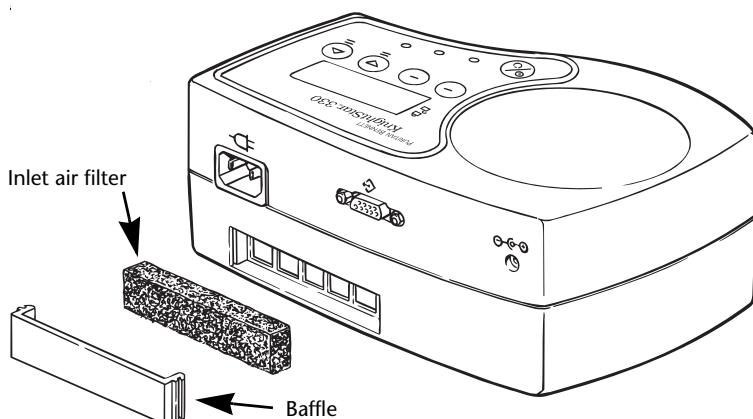

Figure 3-5. Removing the inlet baffle
1. Remove the baffle from the back of the unit (Figure 3-5) by pulling outward on the middle of the baffle while pushing one end toward the center.